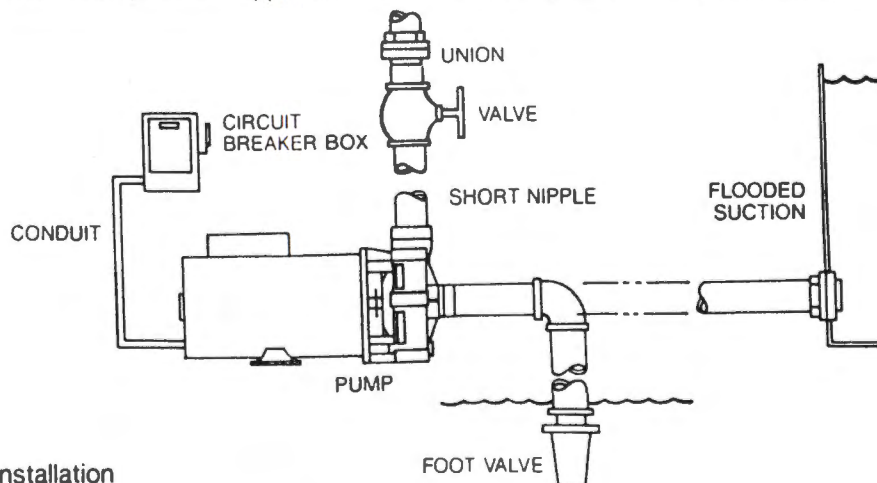

Figure 2 — Typical Installation
4. For location of discharge piping (parts mentioned below not furnished) see Figure 2.